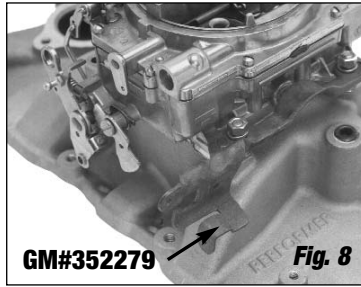

Fig. 8
- Connect all throttle and transmission linkages and throttle return springs. You may have to cut, bend or modify your stock throttle cable brackets to fit the new carburetor, or use GM #352279 (**See Fig. 8**). 1972-78 small-block Chevys may use Edelbrock Throttle, Transmission, and Cruise Control bracket #8031 #8036 or #8030 (chrome).